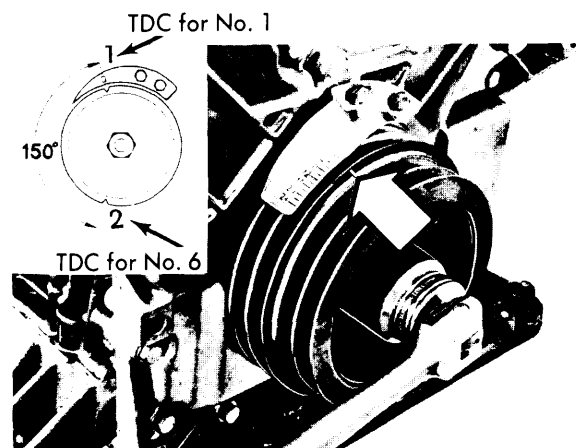
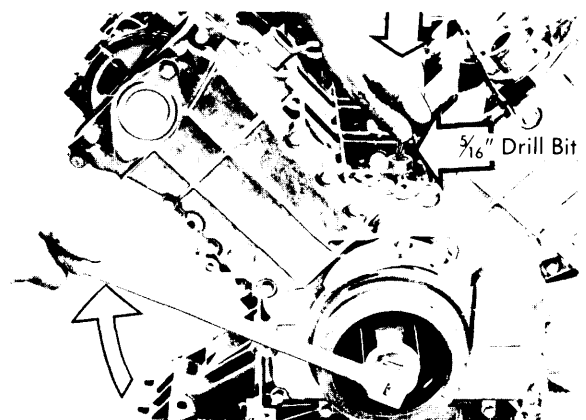

Fig. 5 Adjusting Crankshaft to Firing Position for No. 1 Cylinder
Fig. 12 Locating Top Dead Center for No. 1 Cylinder
1) Rotate crankshaft to firing position for No. 1 cylinder. See Fig.5. In this position, both rocker arms should have clearance. Check and adjust the following cylinders for clearance: Intake
1) Rotate crankshaft so that mark No. 1 (See Fig. 5) is at 20° mark on ignition timing plate. Remove plug and insert $\frac{5}{16}$ " drill bit or similar rod into hole and against crankshaft counterweight, See Fig. 12. Rotate crankshaft in direction of rotation until drill bit can be pressed into recess in counterweight (TDC for No. 1 cylinder).